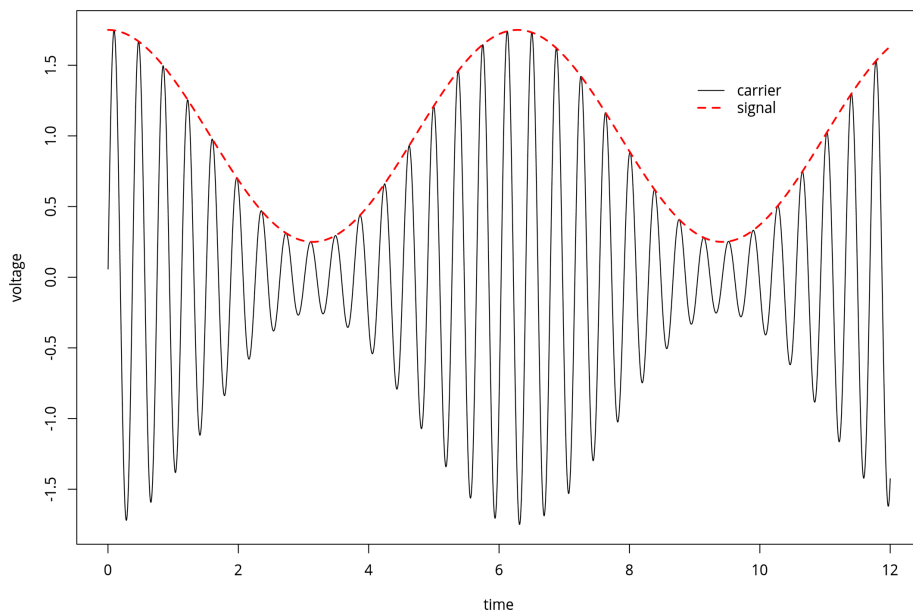

Figure 9-2. *AM modulation*
Amplitude-modulated (AM) radio was the first broadcast radio mode to become popular, and is certainly the most accessible for us. A signal is broadcast at a constant radio frequency (the *carrier* frequency); to hear it, you tune your radio to receive that same frequency. The strength, or amplitude, of this signal is varied over time to mimic the sound wave you'd like to transmit—essentially, the audio sound wave is riding on the carrier wave's amplitude. I plotted out the carrier and signal waves over time in Figure 9-2.
AM radio allows for a particularly simple receiver. When you tune the radio to the correct frequency, the antenna receives a time-varying voltage signal that looks like the solid line in Figure 9-2—the carrier modulated by the signal. To get rid of
Note that this signal is what's called 100% modulated. When the audio signal is at its maximum, the carrier is fully on, and when it's at its minimum, the carrier is fully off. (Compare with the sine wave in Figure 9-2, which was sketched with 75% modulation.) We'll output this signal directly to an antenna, and send it across the room.